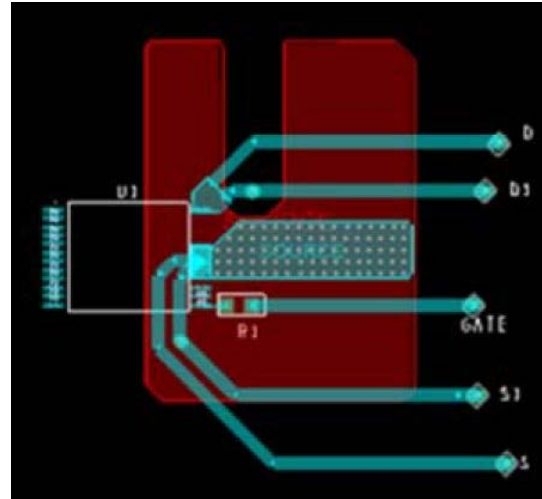

Figure 40. Thermal Resistance Test Conditions for PowiGaN Devices (INN3378C, INN3379C and INN3370C.)
Testing performed on custom thermal test PCB as shown in Figure 40. The test board consists of 2 layers of 2 oz. Cu with the InSOP package mounted to the top surface and connected to a bottom layer Cu heat sinking area of 550 mm2.
4. Please see Figure 40.